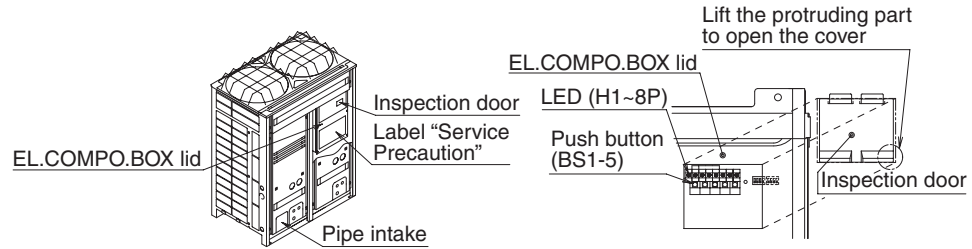
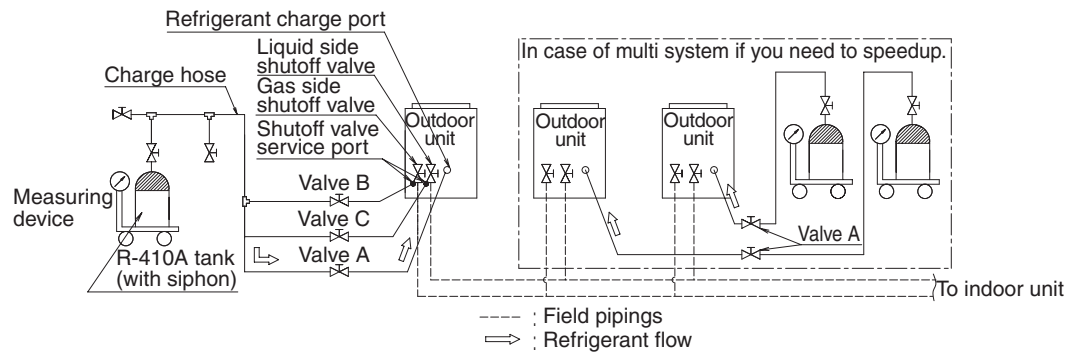

figure 32
figure 33
- Perform the refrigerant charging operation following [Refrigerant charging operation procedure] as shown below, and charge the remaining refrigerant of the “additional charging amount”. For performing the refrigerant charging operation the push button on the PC-board (A1P) of outdoor unit (In case of multi system master unit) are use. (See the figure 32) In addition, the refrigerant are charged from the refrigerant charge port via the valve A. (See the figure 33)
If you need to speedup in case of multi system, connect the refrigerant tanks to each outdoor unit as shown in the figure 33.
- Open the liquid and gas side shutoff valves (The valve A~C must be closed. The valve A~C means the valves in the figure 33.)